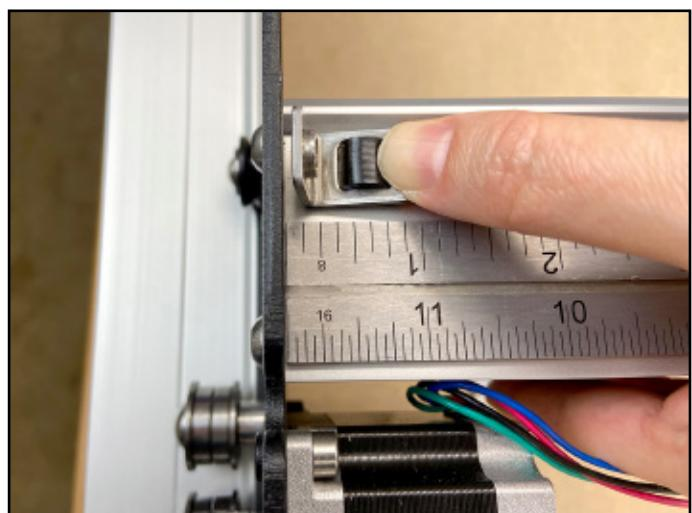

Figure 5-10
11. Adjust the amount of belt you feed through the second belt clip so that when it is laid flat against the X-rail (with the slack removed, but without stretching it), a $\frac{1}{8}$ -inch gap exists between the belt clip and the Y2-carriage. Ensure the teeth of the bottom few inches of belt interlock with the top. See **Figure 5-10**.